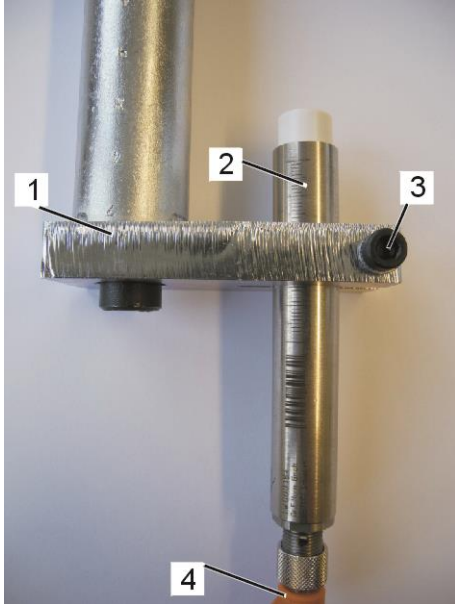

Fig.40: Sensor connected to bracket
2. Connect the sensor cable (Fig.40/4) to the sensor to have a correct alignment of the connector.
3. Insert the sensor (Fig. 40/2) into the sensor bracket (Fig.40/1).
4. Clamp the sensor by lightly tightening the clamp screw (Fig.40/3).